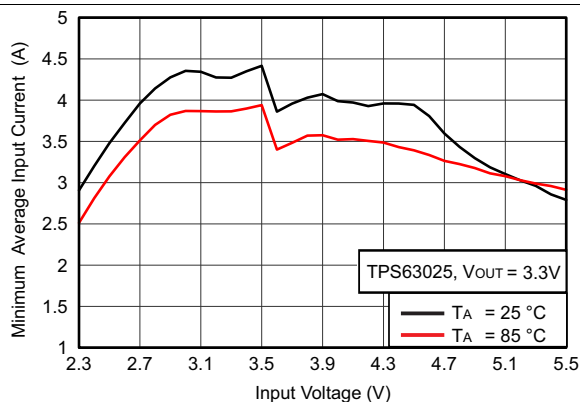

Figure 1. Minimum Average Input Current vs Input Voltage
(1) For minimum and maximum output current in a specific working point see Figure 1 and Equation 1 through Equation 4.
(2) Conditions:  $L=1\ \mu\text{H}$ ,  $C_{OUT}=2 \times 22\ \mu\text{F}$ .
(3) For variation of this parameter with Input voltage and temperature see Figure 1.
Given the curves provided in Figure 1, it is possible to calculate the output current reached in boost mode, using Equation 1 and Equation 2 and in buck mode using Equation 3 and Equation 4.
$I_{\text{IN}}$  = Minimum average input current (Figure 1)